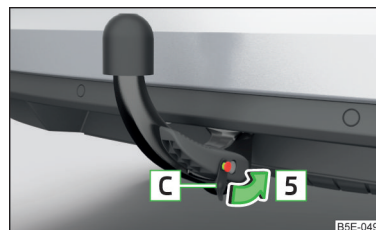

Fig. 166
- Fit the cap **C** on the hand-wheel lock in the direction of the arrow **5** » Fig. 166 » **!**.